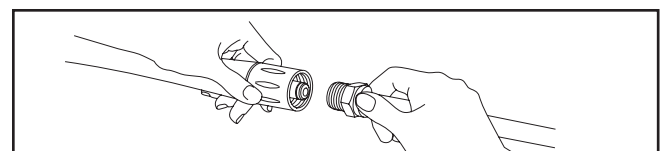

Figure 16 — Connect Nozzle Extension to Spray Gun
7. Attach nozzle extension to spray gun (see Figure 16). Tighten by hand.